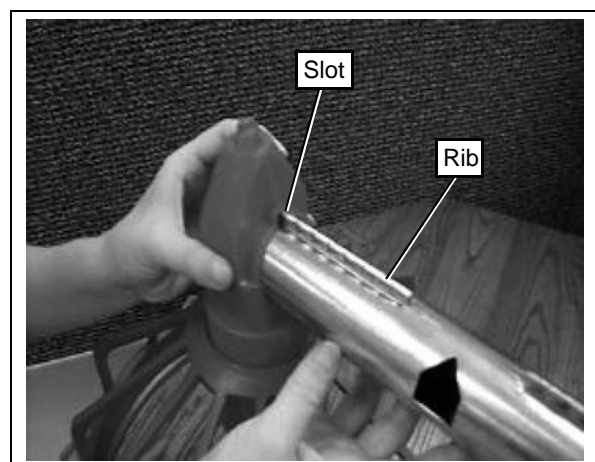

Figure 7B
2. Slide the proper number of feeder assemblies onto each auger tube. The tube rib slides through the slot at the top of the drop tube. (See Figure 7B.)